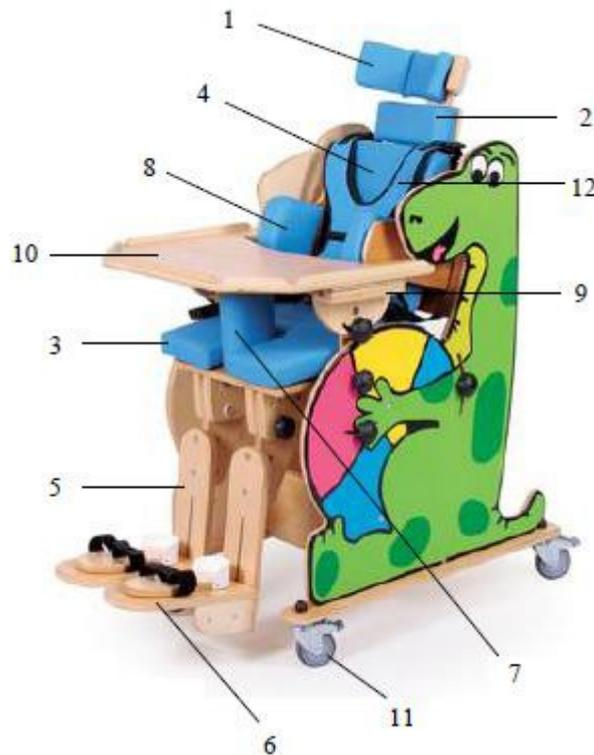

Figure 1.
- b) Assemble the foot platforms-unscrew the knob "I" (Figure 2.), move the platforms and screw the "I" knob (Figure 1).